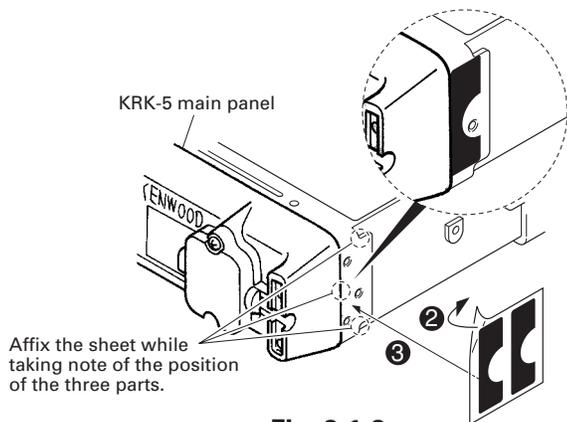

Fig. 2-1-2
4. Affixing the sheet (G11-4379-04) for the waterproof (Fig.2-1-2).
(1) Remove the covering paper of the sheet (2).
(2) Affix the sheet while taking note of the position of the three parts as shown in Fig.2-1-2 (3).